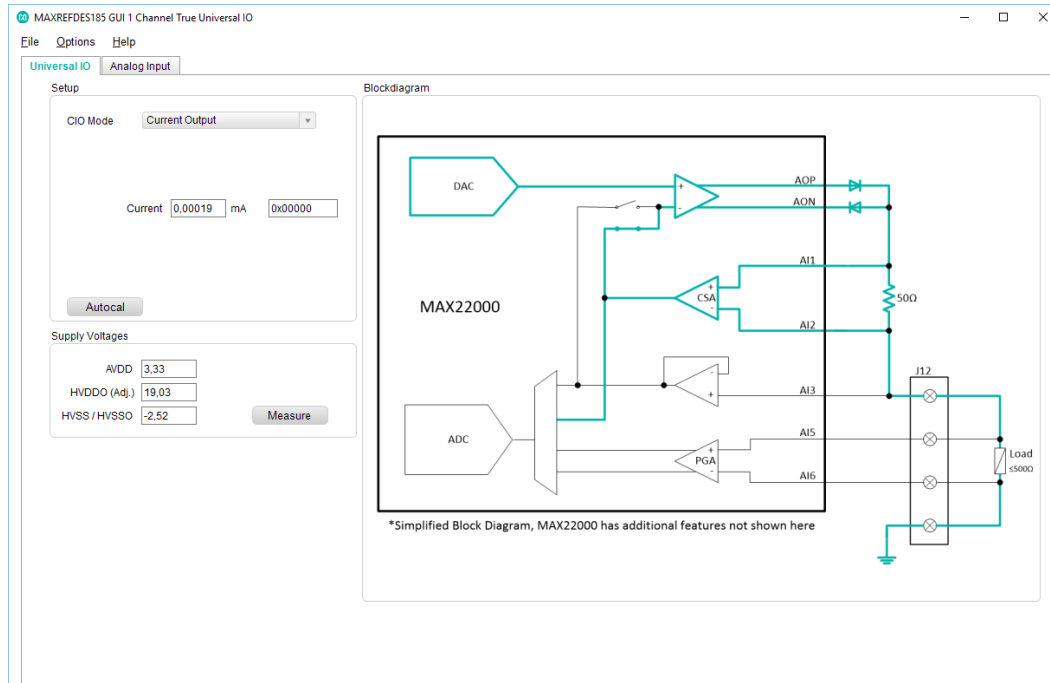

Figure 12. CIO Mode current output.
23. **Current Output:** The GUI (**Figure 12**) will show how both the DAC is driving the current and the feedback is reading current into J12. Enter any current between 0 and 20mA.